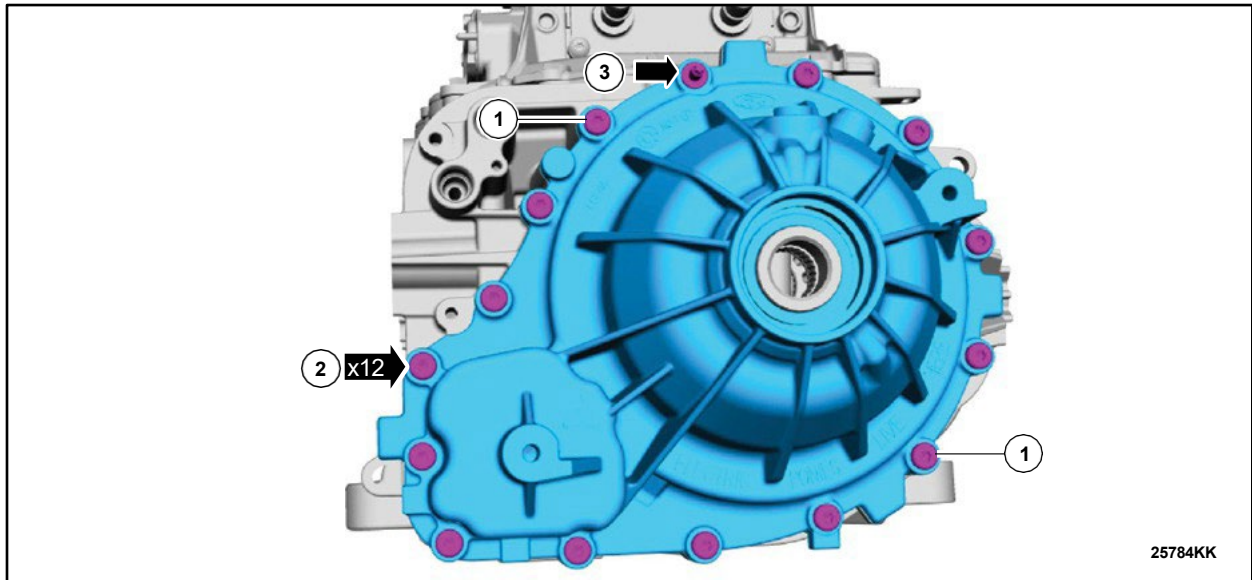

FIGURE 32
35. Perform the following: See Figure 32.